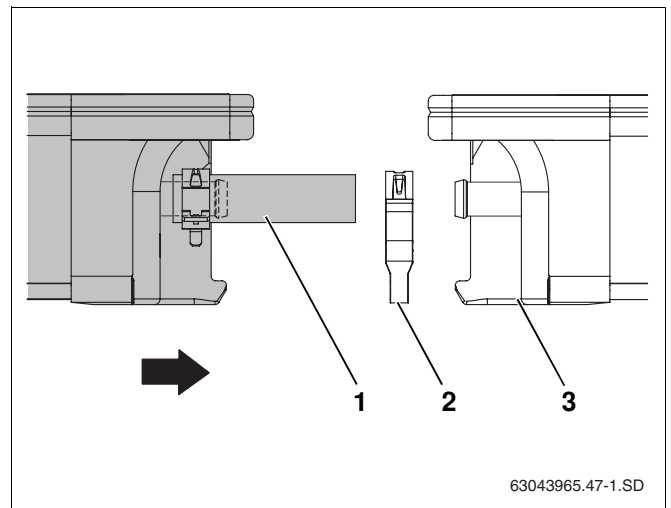

Fig. 27 Joining second collector with the first
- Allow the second collector and the pre-assembled solar hoses (Fig. 27, **Item 1**) to slide into the anti-slip protection device.
- Push the second hose clip (Fig. 27, **Item 2**) onto the solar hose.
- Push the second collector towards the first collector in such a way that the preassembled solar hoses are pushed onto the left-hand connections on the first collector (Fig. 27, **Item 3**).